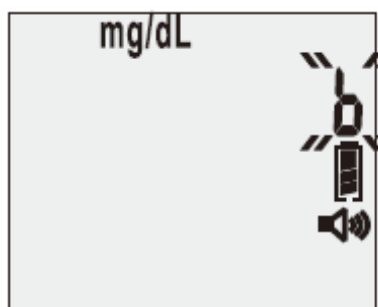

Figure 3-15).
1. To flag a before-meal test, press the “**R**” right function button two (2) times after you hear: “**Apply blood now.**” You will then hear: “**Ready for test before meal.**” Apply blood to the edge of the strip. You will hear “**Testing in process**” (see Figure 3-15).